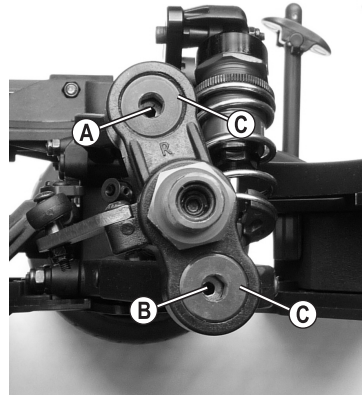

Figure 9
To adjust the camber, turn the metal spherical-head screws (fig. 9, nos. A+B) with a small 2.5 mm hex key (D). Tighten (or loosen) the set screws (fig. 9, no. C) using a 5 mm hex key (E). As described above, the metal spherical-head screws must be able to move slightly in the steering knuckle (however, they must not wobble).
Turn the upper spherical-head screw (fig. 9, no. A) clockwise to the right and the lower spherical-head screw (fig. 9, no. B) counter-clockwise to the left at the same angle.
Turn the upper spherical-head screw (fig. 9, no. A) counter-clockwise to the left and the lower spherical-head screw (fig. 9, no. B) clockwise to the right at the same angle.